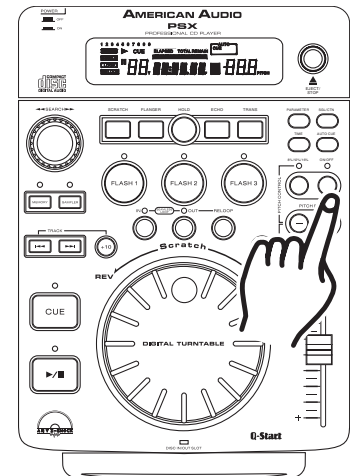

Figure 39
Adjusting the Pitch Slider's Range (17): You may change the pitch slider's (17) operating range. To change the operating range be sure the pitch function is turned on, see figure 39. The pitch percentage can be changed between +/-8%, +/-12%, and +/-16%. 8% will allow the least amount of pitch manipulation and 16% will allow the most amount of pitch manipulation. To adjust to the different values tap the 8% 12% 16% **BUTTON (23)**. The LED above the **PITCH PERCENTAGE BUTTON (23)** will indicate which pitch percentage mode you are in by, glowing green for 8%, glowing orange for 12%, or glowing red for 16%. Note, the pitch percentage must be activated to get a LED reading.